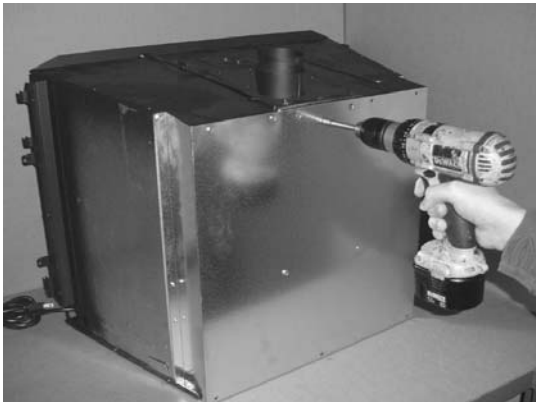
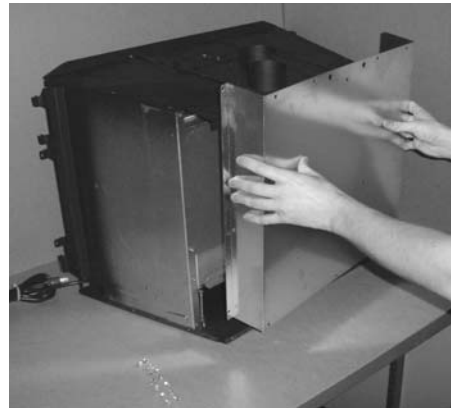

Figure 1
Figure 2
- 1 Access the back of the insert and remove the 14 screws holding the back panel in place (see Figure 1). Remove the back panel and place it aside (see Figure 2).